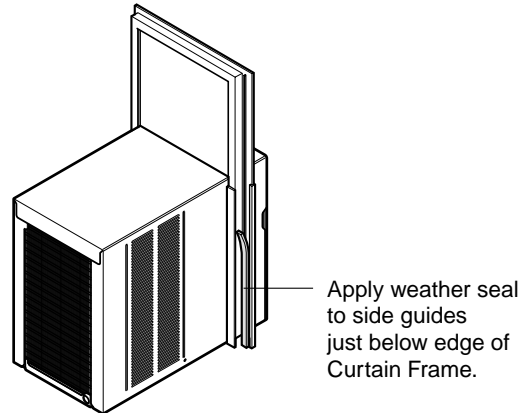

Figure 28
9. Cut side guide seal into 2 equal lengths. Remove protective backing and apply it to the rear side of cabinet side guides, starting just below curtain frame assembly. Pinch off excess length so seal is even with the bottom of side guide. (See Figure 28)